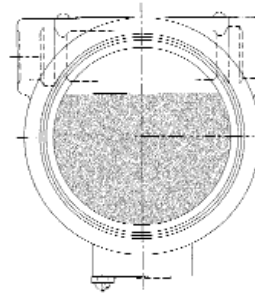

Figure 5
2. See Figure 5 for defined area for pass throughs.